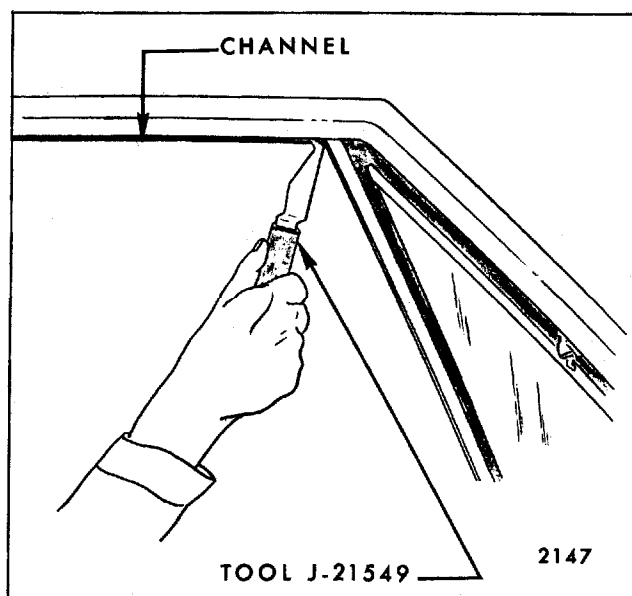

Fig. 7-98—Door Window Glass Run Channel Removal
4. From outside door, insert a sharp pointed right angle tool (reveal) molding clip disengaging tool J-21549 or equivalent) between outer edge of glass run channel and door upper frame as shown in Figure 7-98.